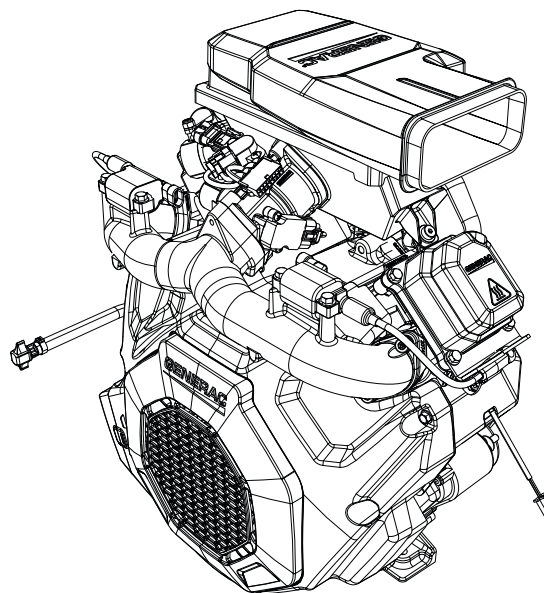

Figure 12-29. Completed Installation
1. See Figure 12-29. Install throttle body assembly (A) and air box assembly (B) onto intake manifold using two bolts (C). Verify air box bolt holes align with the tabs on the rocker covers.